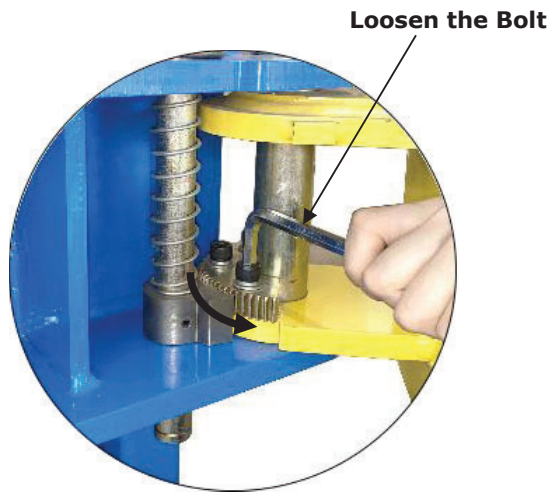

Fig. 38
2. Lowering the carriages down to the lowest position, then use the 8# socket head wrench to loosen the socket bolt (See Fig. 38).